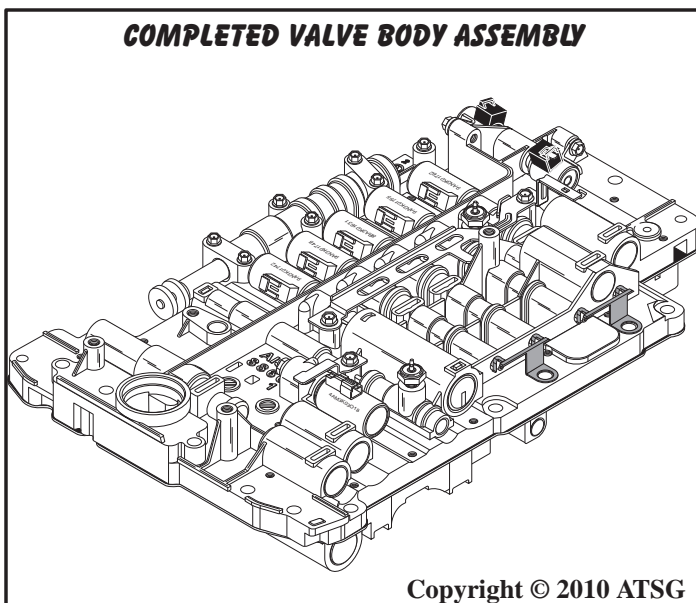

Figure 184
32. Set the completed valve body assembly aside for the final assembly process (See Figure 184).